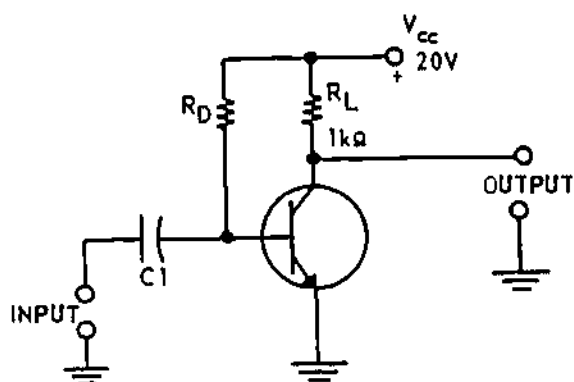

Figure 31-1. Common Emitter Amplifier (NPN)
3. Refer to figure 31-1. If I_C was 5 mA, what would be the voltage measured between the collector and emitter?